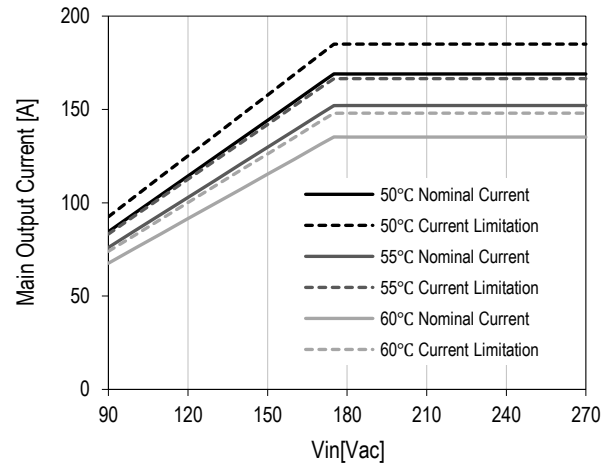

Figure 24. Derating on  $V_1$  vs  $T_a$  &  $V_{in}$
3) See Figure 24 and Table 1 for linear derating > 50°C
The main output current limitation level  $I_{V_1\text{lim}}$  will decrease if the ambient (inlet) temperature increases beyond 50 °C (see Figure 24 and Table 1). Note that the current limitation on  $V_1$  will kick in at a current level approximately 10A-16A higher nominal output current than is shown.